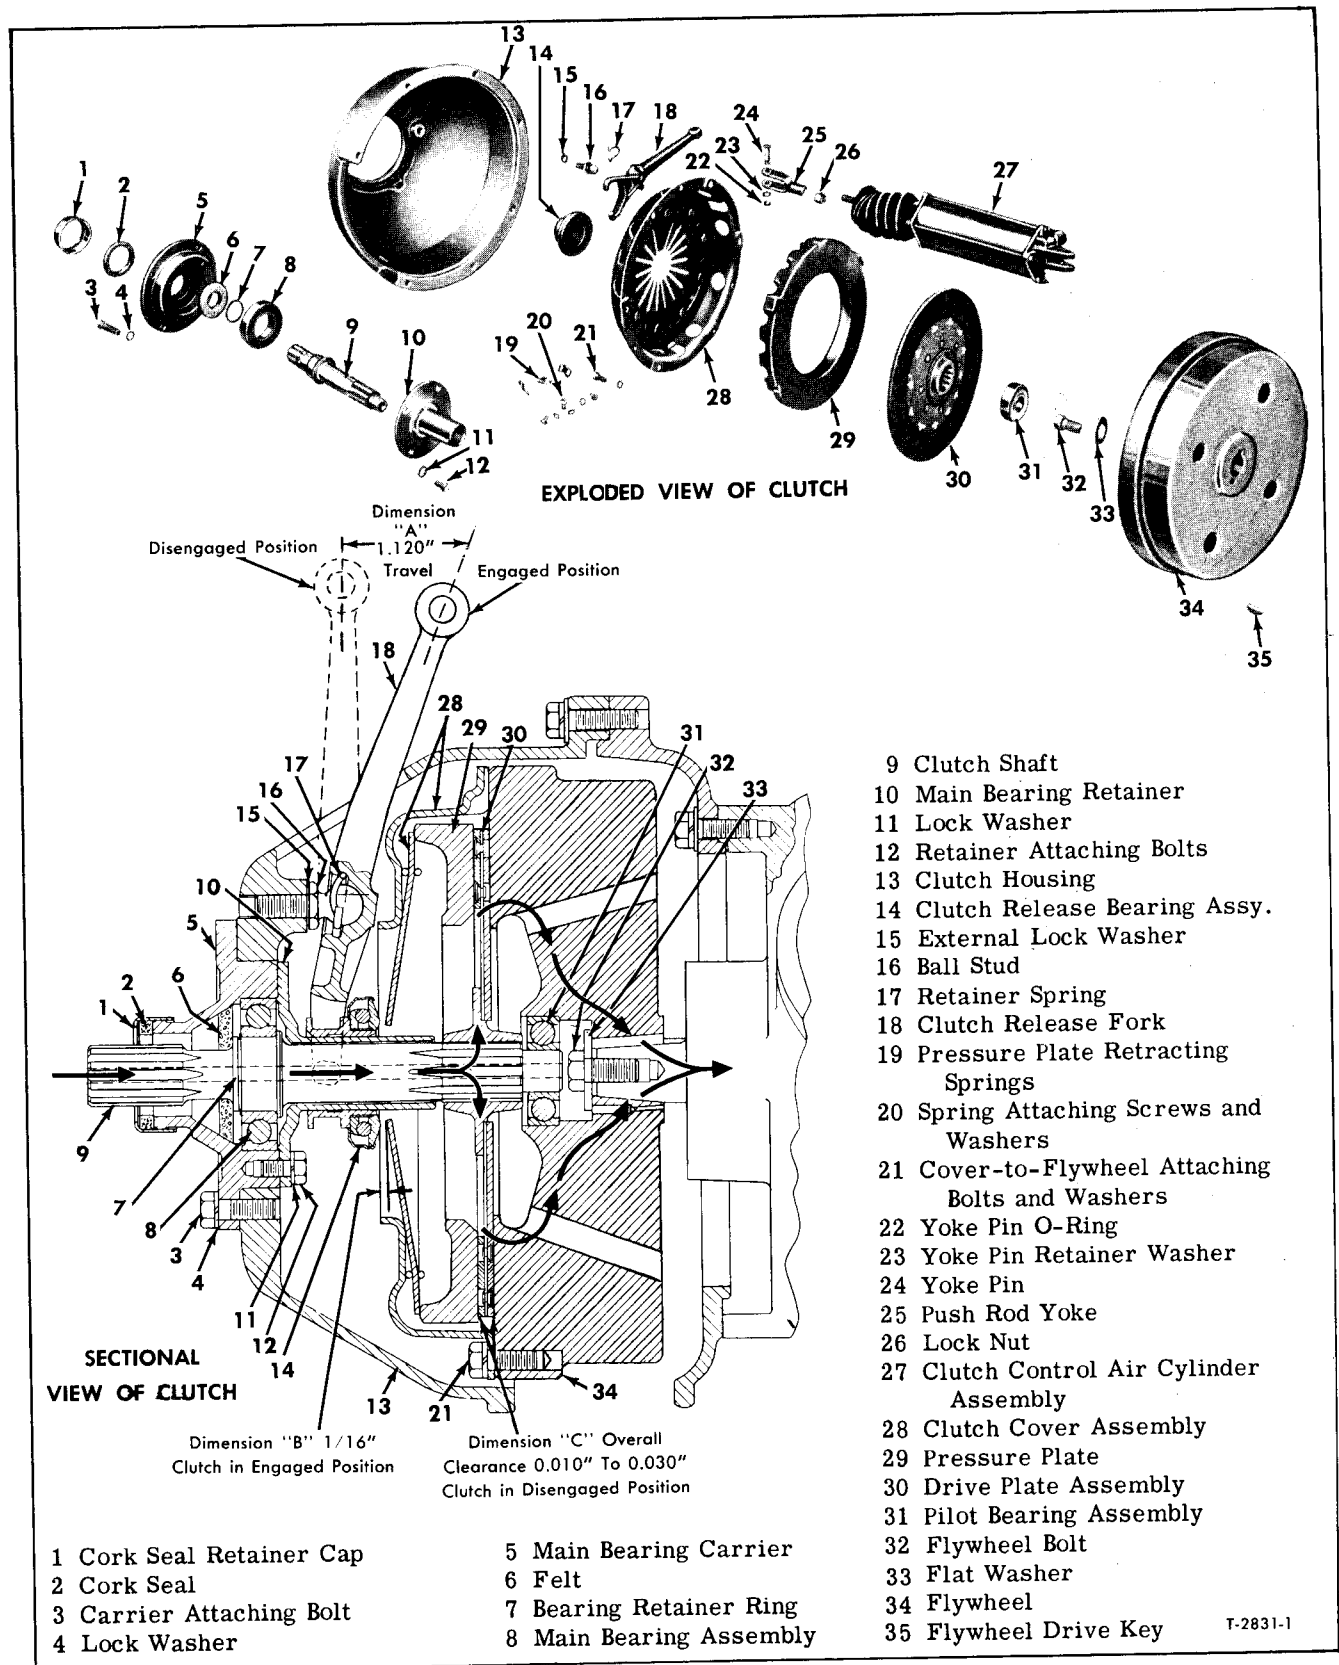

Figure 57—Compressor Drive Clutch Components
line which releases pressure from clutch cover spring, causing clutch to become engaged. Lower view of figure 57 shows clutch in the engaged position, air pressure applied. The upper view of figure 57 shows disassembled components of clutch.
Before placing system in season operation and at periodic chassis lubrication intervals, the clutch release bearing surface of retainer, item 10, figure 57, and the pin at each end of clutch air cylinder should be lubricated. Access to the bearing retainer can be obtained by removing the compressor compartment dust shield and using a small long-handled brush to reach into access hole to underside of clutch housing. Use grease containing zinc oxide.
At regular intervals the over-all clearance between the clutch driven plate, the pressure plate, and the compressor flywheel (dimension "C", fig. 57) should be checked. Clearance should
With clutch in the engaged position (air pressure applied), release bearing should clear the Belleville spring by at least 1/16 inch (dimension "B," fig. 57). If there is less than 1/16 inch it means that more stroke is being applied to spring than is necessary to get 0.010-0.030 inch plate clearance. Distance of release bearing from Belleville spring can be checked by removing pin through yoke and release fork and swinging bearing against spring by hand. Then gradually move bearing away from spring, observing distance the outer end of release fork travels. A 7/64 inch movement at outer end is equal to 1/16 inch at
The compressor drive clutch (fig. 57), enclosed by an aluminum housing, is mounted to drive end of compressor. Clutch is of the conventional automotive type and is actuated by an air-powered cylinder assembly mounted to side of compressor.
The clutch input shaft, which is propeller shaft driven from engine accessory drive, is engaged directly to the clutch drive plate assembly. Thus the drive plate is turning whenever the coach engine is running. When clutch is engaged by action of the air cylinder, the Belleville spring of clutch pressure plate is released. This action releases pressure plate to engage both drive plate and compressor flywheel to turn the compressor. Large arrows on figure 57 indicate the power flow from the drive shaft input through the clutch to the compressor. Clutch components can be replaced without having to remove compressor from coach.
5. Spring-loaded clutch cylinder (27, fig. 57) must be disconnected from clutch release fork (18, fig. 57). In order to remove fork connecting pin (24, fig. 57), disconnect cylinder air line hose at air control solenoid valve, then apply shop air
5. Apply shop air pressure to clutch control air cylinder, then install cylinder to release fork clevis pin, pin (washer) retainer, and rubber O-ring (24, 23, and 22, fig. 57). Attach cylinder air line to air control solenoid valve.
Key numbers in text refer to figure 57.
1. Press main bearing assembly (8) onto clutch shaft (9), making sure unshielded side of bearing is toward flange on shaft.
2. Install bearing retainer ring (7) into ring groove on shaft.
3. Pack cavity of main bearing carrier (5) with same grease recommended for compressor drive shaft. Refer to LUBRICATION (SEC. 13). Install felt (6) in carrier over the grease with taper of seal positioned to mate taper in carrier. Referring to figure 57 for position of parts, place carrier on shaft and bearing, then position main bearing retainer (10) over bearing to carrier. Install retainer to carrier with four bolts and lock washers. Tighten bolts firmly.
5. Pack ball stud socket of clutch release fork (18) with wheel bearing grease, then insert ball stud (16) into socket. Secure stud with retainer spring (17). Make sure both ends of spring are located in fork.